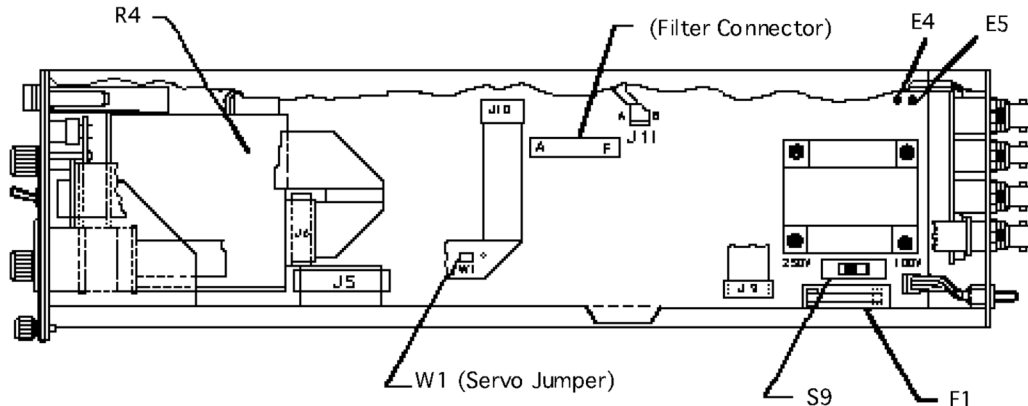

FIGURE 3-1: INTERNAL CONTROLS
The chassis is connected to the third wire ground of the power plug. Insulated guide rails in the Model 4948 rack adapter ensure electrical separation of the amplifier signal grounds from other amplifiers. To prevent pickup of stray electrical noise, it may be required to connect the signal output ground to third wire ground via external equipment or chassis ground. This also may be done by soldering a jumper between E4 and E5 pads on the circuit board (see Figure 3-1).
- K. The Servo output may be selected for 10mV/g or 100mV/g by a jumper clip on the main circuit board. The Servo output is independent of the full scale g range selected. The top cover must be removed to set the servo jumper clip (see Figure 3-1).